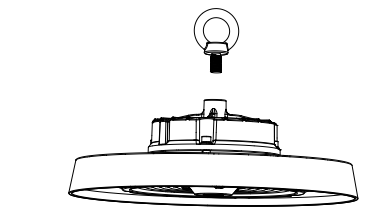

FIGURE 2
2. Hang the fixture on the ceiling hook or chain. (Figure 2)